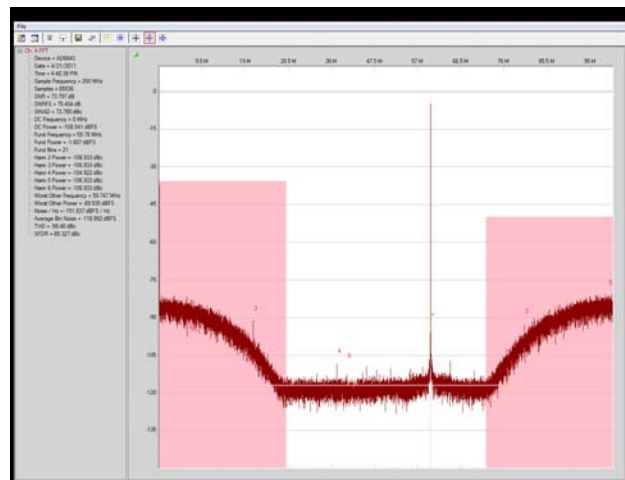

Figure 22. Graph Window of VisualAnalog, NSR Enabled, AD6643
- The result should show an FFT plot that looks similar to Figure 22.